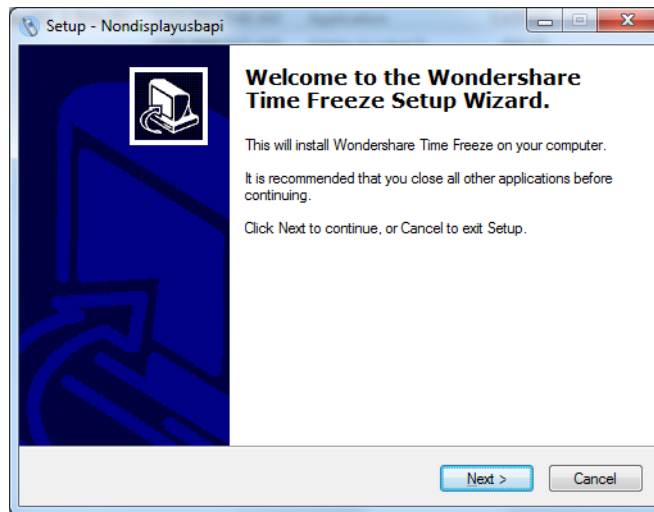

Figure 3-14: Handset Driver Installation
Step 4: Follow the step-by-step instruction of the installation wizard (**Figure 3-14**) to install the handset driver.